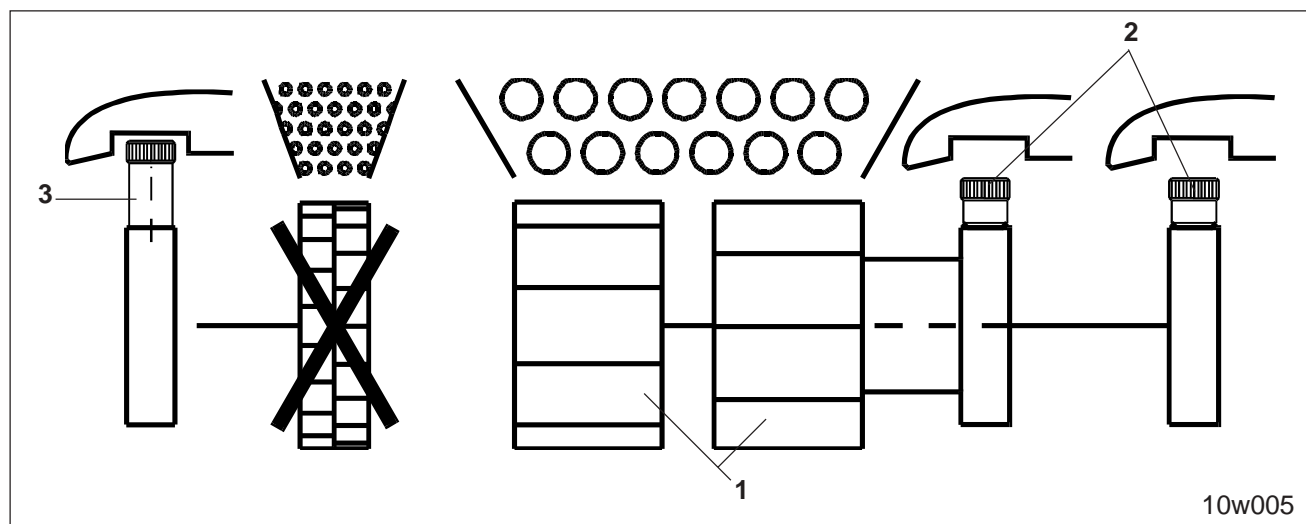

Fig. 9.5
For sowing with both metering wheels (Fig. 9.5/1)
- Drive in thumb bolts (Fig. 9.5/2) of the main metering wheels
- Drive out thumb nut (Fig. 9.5/3) of the fine seed metering wheel.